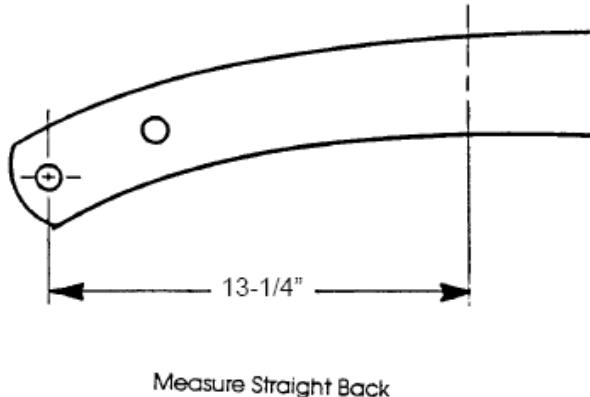

Figure 1- Axle Centerline
4. Mark the axle centerline. On the 32 Ford it is located 13-1/4" back from the center of the front spreader bar hole, as shown in **Figure 1**. Mark this line on the top of the frame, as it is used for a couple of measurements.